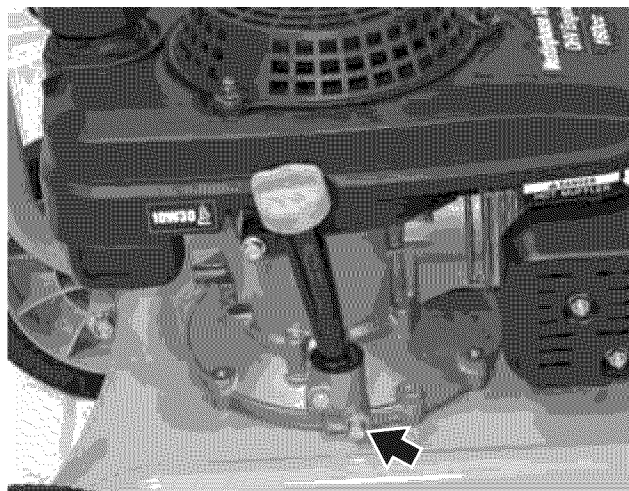

Figure 28 – Oil Drain Plug
6. Remove the oil drain plug (see *Figure 28*). Once removed, place the oil drain plug on a clean surface.